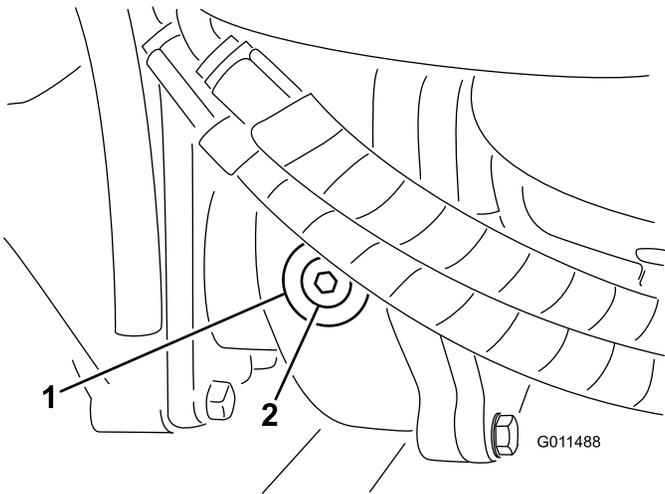

Figure 71
- Remove the check/fill plug from the left side of the gear box (Figure 71) and make sure that lubricant is up to the bottom of the hole. If the level is low, add enough lubricant to bring the level up to the bottom of the hole.